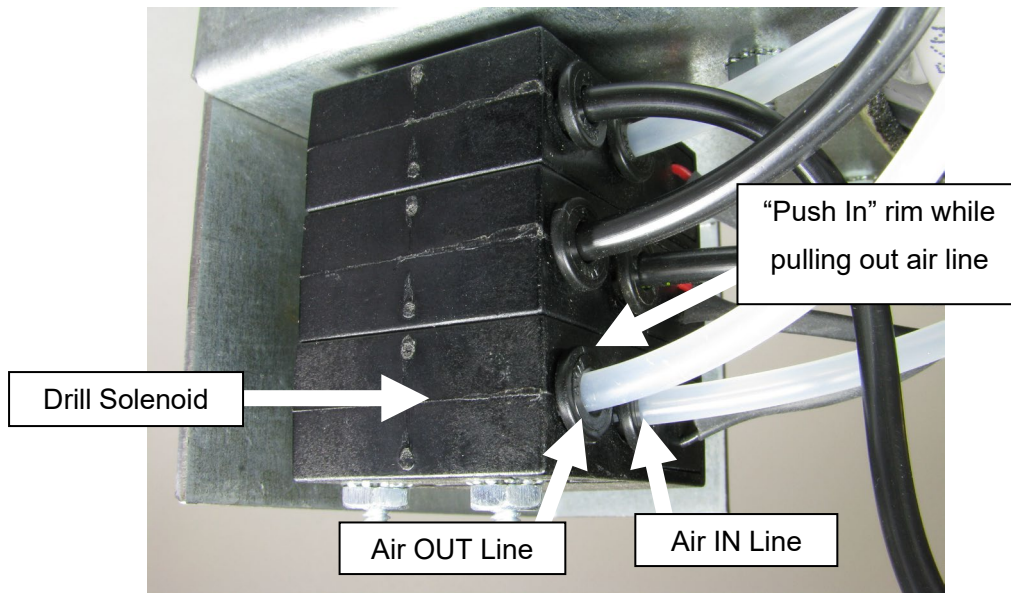

Fig 19
1. Disconnect power and air from the machine. Remove both air lines from the Drill Solenoid. **See Fig 19**.